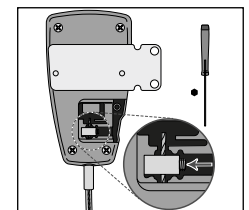

Fig. 6
5. Use the Allen screwdriver to loosen the cone point safety screw two to three turns and slide the Cable End Block of the inner cable (**see Fig. 6**).